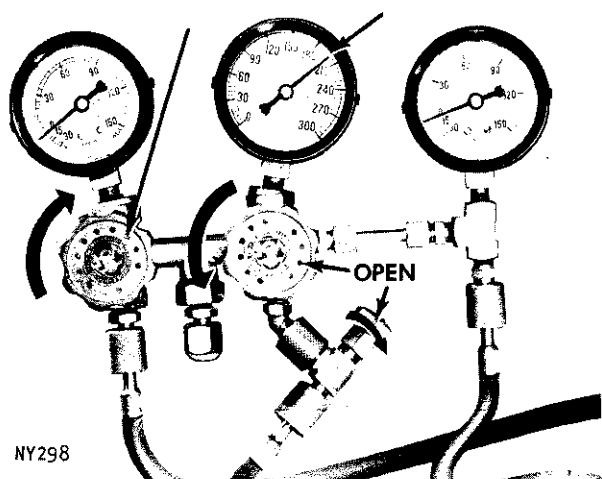

Fig. 18—Compressor Test Pressures
(1) Start the engine and adjust speed to exactly 450 rpm.
(2) Slowly close the left-hand gauge valve. Refer to Figure 18. All air delivered by the compressor will now be discharged through the metering orifice in the test cap. The pressure registered at the discharge gauge should build up to at least 230 psi.
(3) The load on the compressor may affect engine speed. If necessary, readjust the engine speed to exactly 450 rpm. The discharge pressure should build up to a minimum of 230 psi.
(4) Open the left-hand gauge valve momentarily to allow the pressure to drop. Then close the valve to make sure the pressure again builds up to a minimum of 230 psi with the engine operating at 450 rpm.